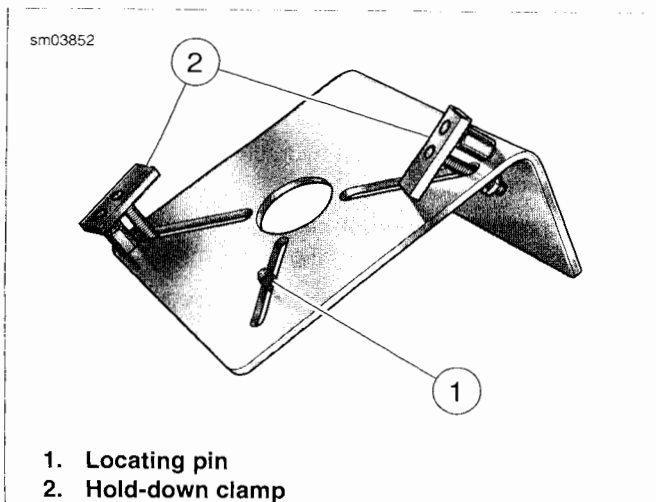

Figure 3-150. Flywheel Fixture (Part No. HD-44358)
- Obtain FLYWHEEL SUPPORT FIXTURE (Part No. HD-44358). See Figure 3-150. Install brass jaws or shop towels around teeth of vise to prevent damage to tool. Clamp tool in vise with the round hole topside.